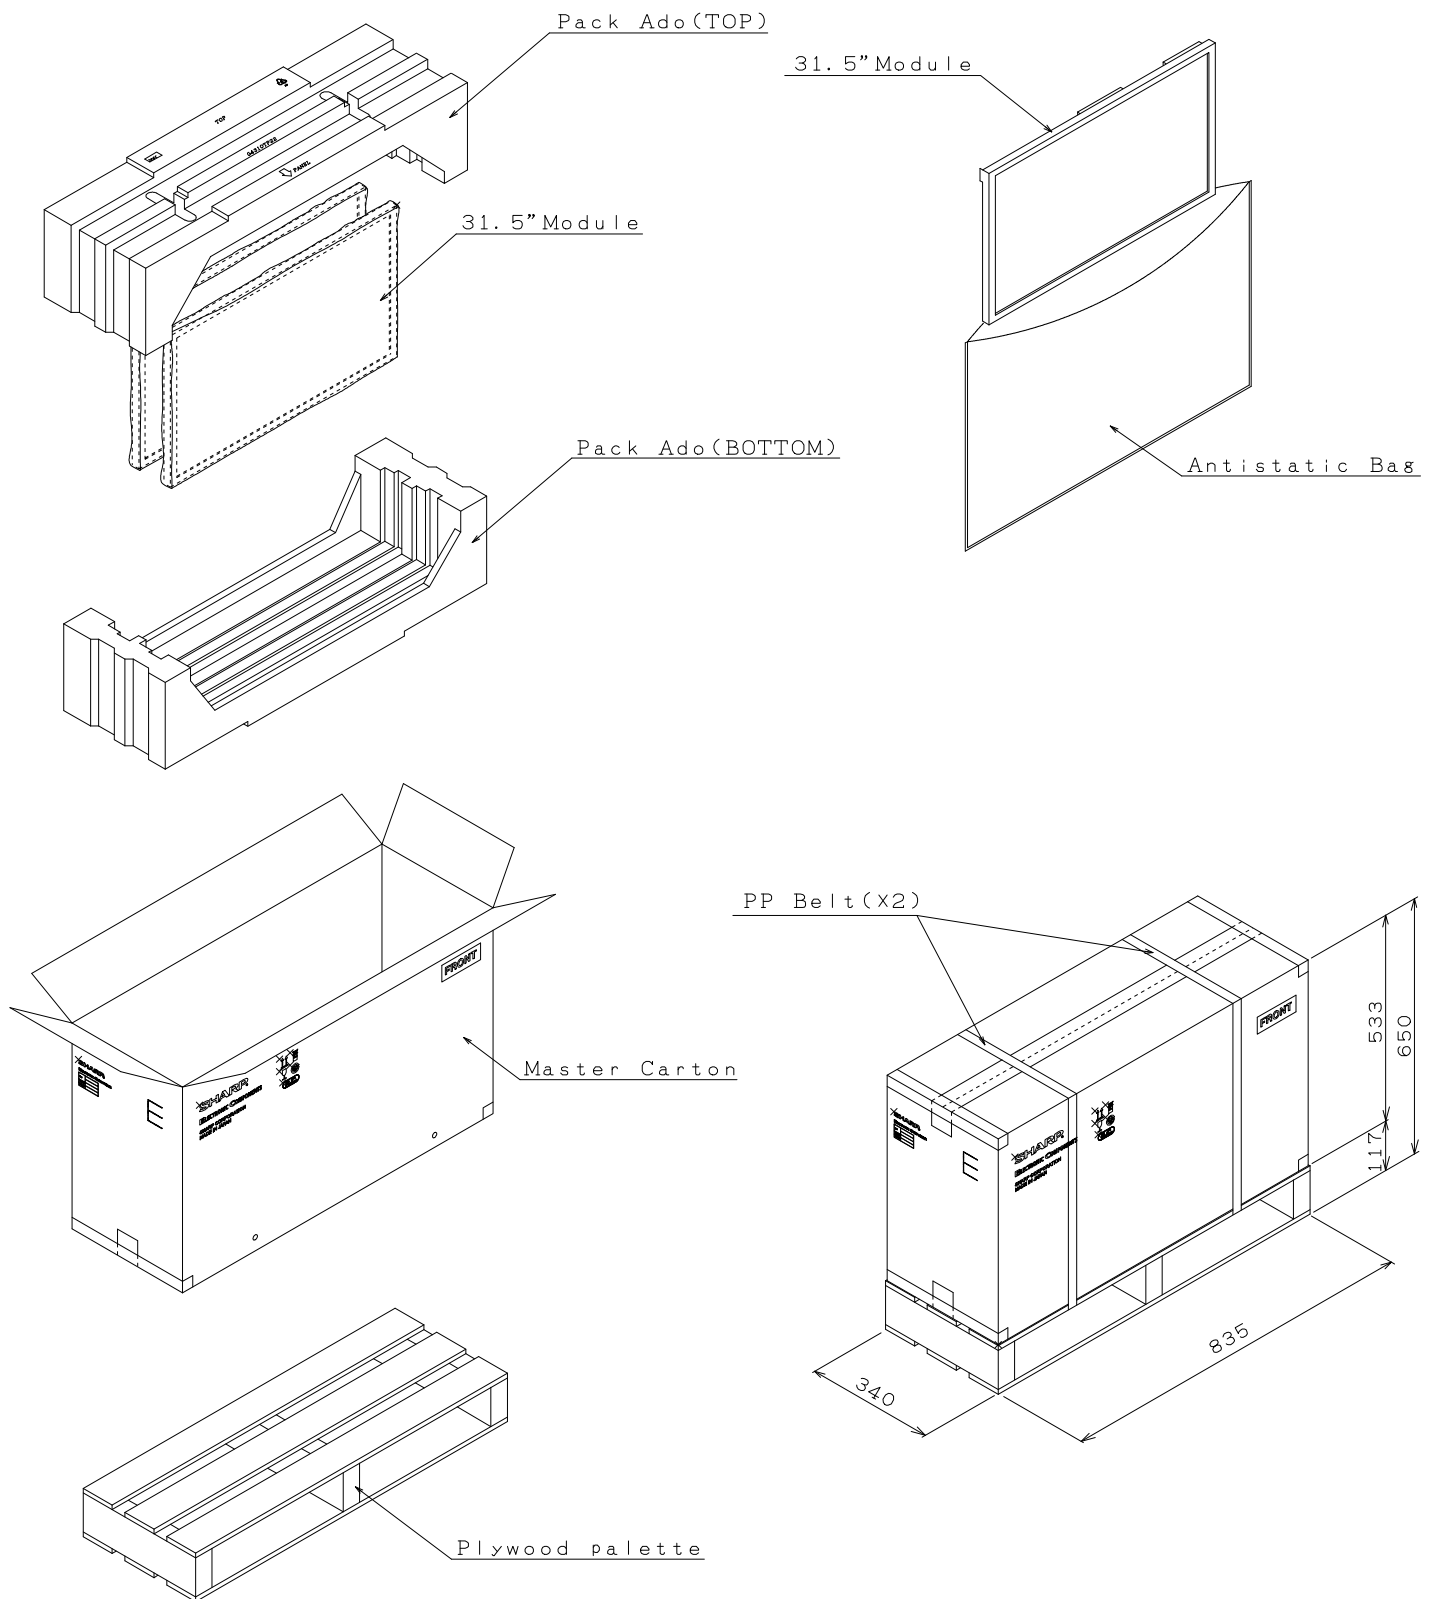

Fig. 4
- c) Carton size: 835 (W) × 340 (D) × 650 (H)
- e) Packing Form is shown in Fig.4.